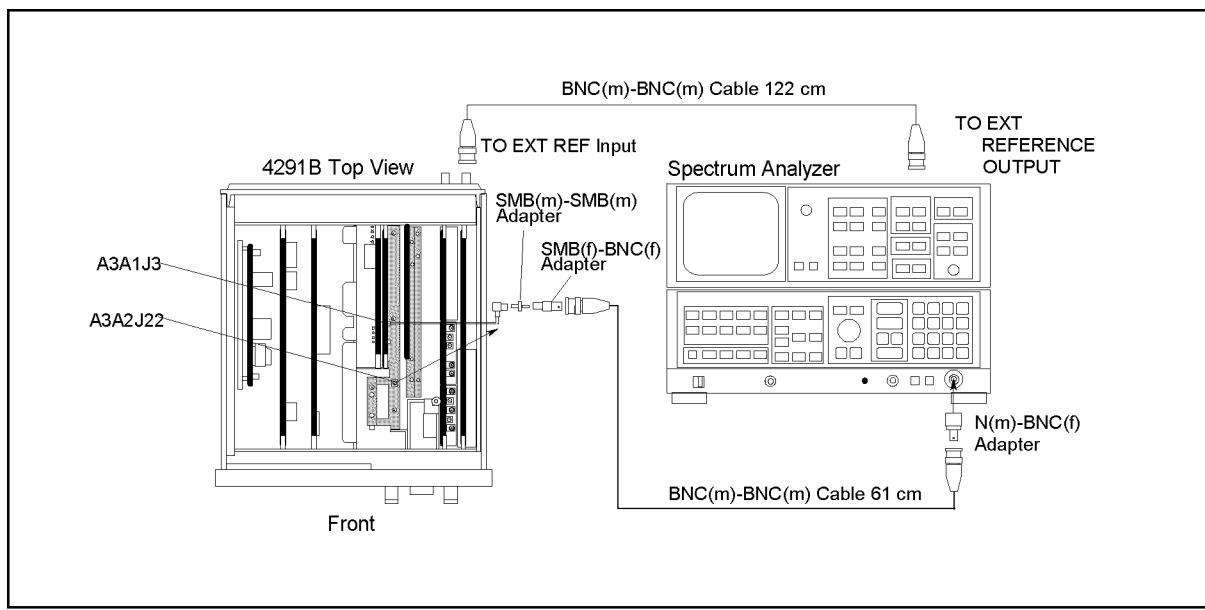

Figure 7-17. 21.42 MHz Signal Test Setup
- Remove the "D" cable from A3A2J22, and connect the equipment as shown in Figure 7-17.